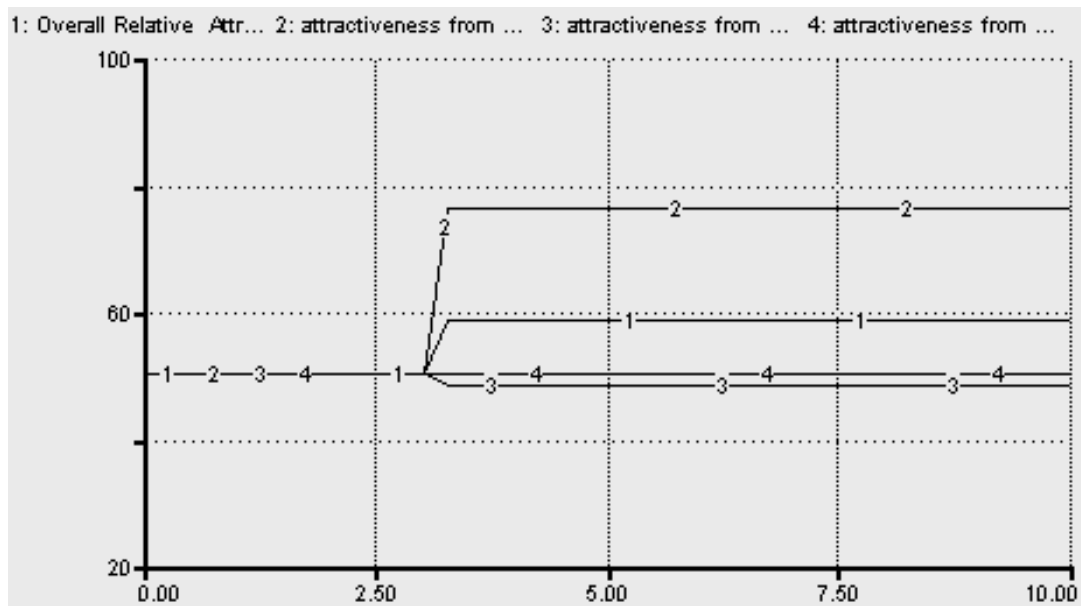

Figure 7-11.
attractiveness (density of development, unemployment, and housing availability) are set equal to the values for each component taken on by the town/city/region to which this population center is being compared—i.e., the “attractiveness gradient” is neutral. In time period three, a 10% influx of new businesses occurs, boosting jobs by the same percentage, and hence increasing attractiveness from an jobs standpoint. However, as Figure 7-11 shows, the increase in attractiveness from employment (2) is somewhat offset by a decrease in attractiveness from the higher development density (3), caused by the increase in the number of business structures.
In interpreting Figure 7-11, it’s important to note that the weightings on the three components of attractiveness are equal. That’s why even though attractiveness from employment surged, the overall index of attractiveness moved far less (even without the offset due to increased development density). You might wish to play with these weightings, and then re-simulate the test to see how the impact changes.